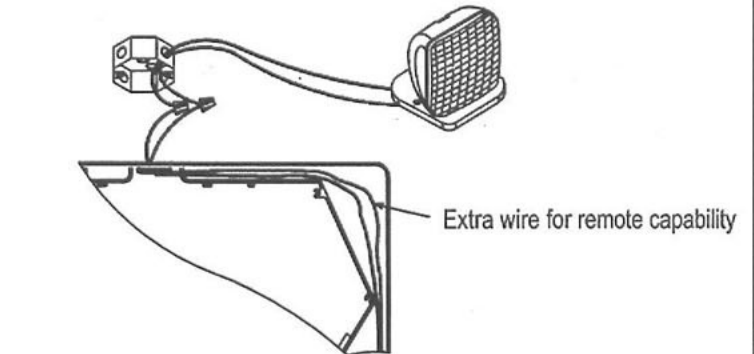

Fig. 8 Wiring for remote capability
1. In order to use additional remote heads (6V 12W Max.), make the proper lead connections with remote head wires at junction box using remote load wires in the sign. (See Fig.8)